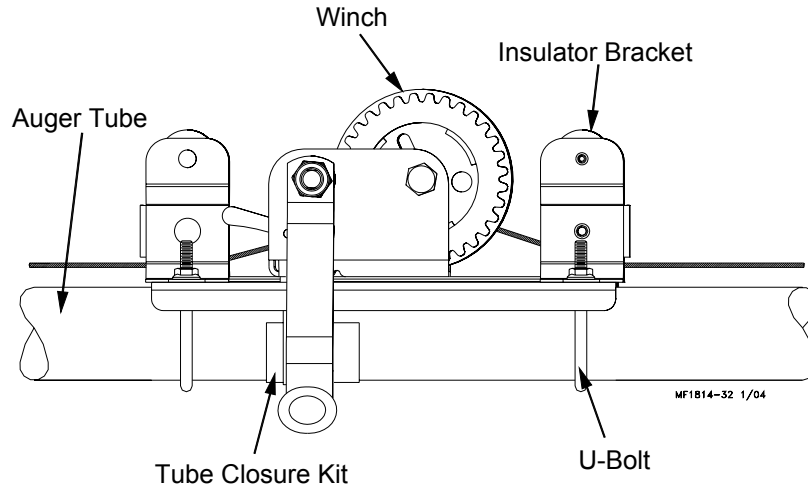

Figure 37. Winch Installation
1. Use two U-bolts provided to fasten the winch to the feeder line tube, see figure 37. The winch should be placed in the center of the line of Feed Level Tubes it will adjust, as shown in Figure 36.